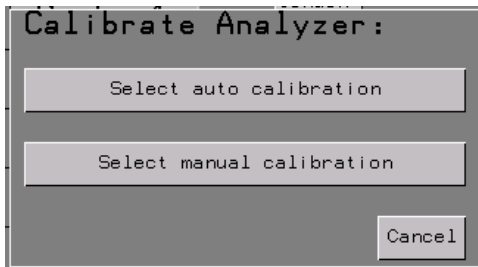

Figure 4-26: Annual calibration
- **Calibrate:** Pressing the Calibrate button opens the page for annual calibration – see figure 4-26.